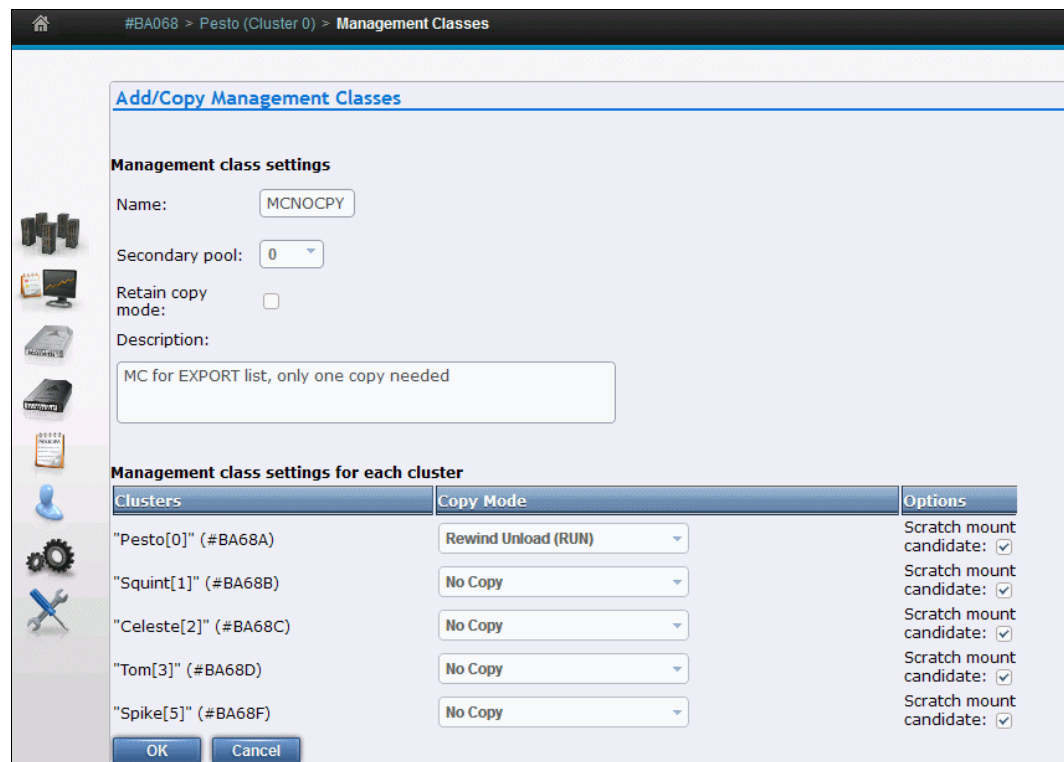

Figure 12-3 Management Class settings for the export list volume
To begin the Copy Export process, create an export list volume that provides the TS7700 with information about which data to export and the options to use during the operation (Figure 12-3 on page 767).
- The export list file must be written without compression. Therefore, you must assign a Data Class (DC) that specifies COMPACTION=NO or you can overwrite the DC specification by coding TRTCH=NOCOMP in the JCL.
Figure 12-3 shows the setting of an MC on the MI for the export list volume in a multi-cluster grid configuration. RN means one copy locally at RUN (R) and no copy (NN) on the other cluster.